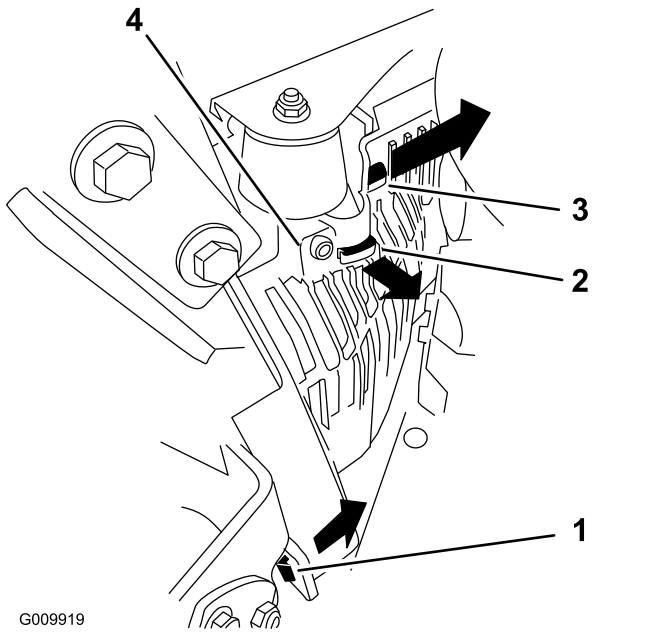

Figure 55
3. Remove the left hydraulic unit shroud in the order listed with Figure 55. This gives you access to the front spark plug.
5. Install the left hydraulic unit shroud (Figure 55).